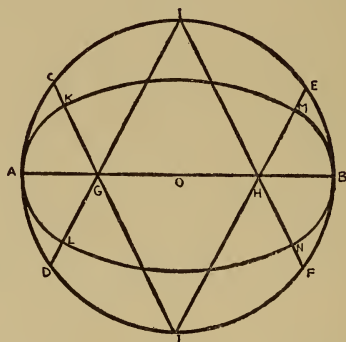

FIG. 29. HOW AN ISOMETRIC ELLIPSE IS DRAWN
**How to Draw an Isometric Ellipse.—A Harder but More Accurate Way.**—Begin by drawing a straight line as long as you want the longest axis of your ellipse to be, as shown at AB, Fig. 29. Divide